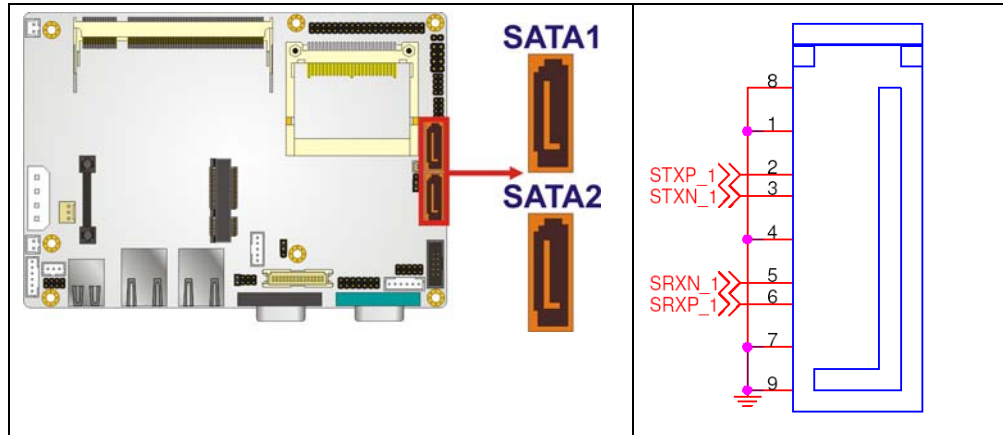

Figure 4-15: SATA Drive Connector Locations
- CN Location:** See Figure 4-15